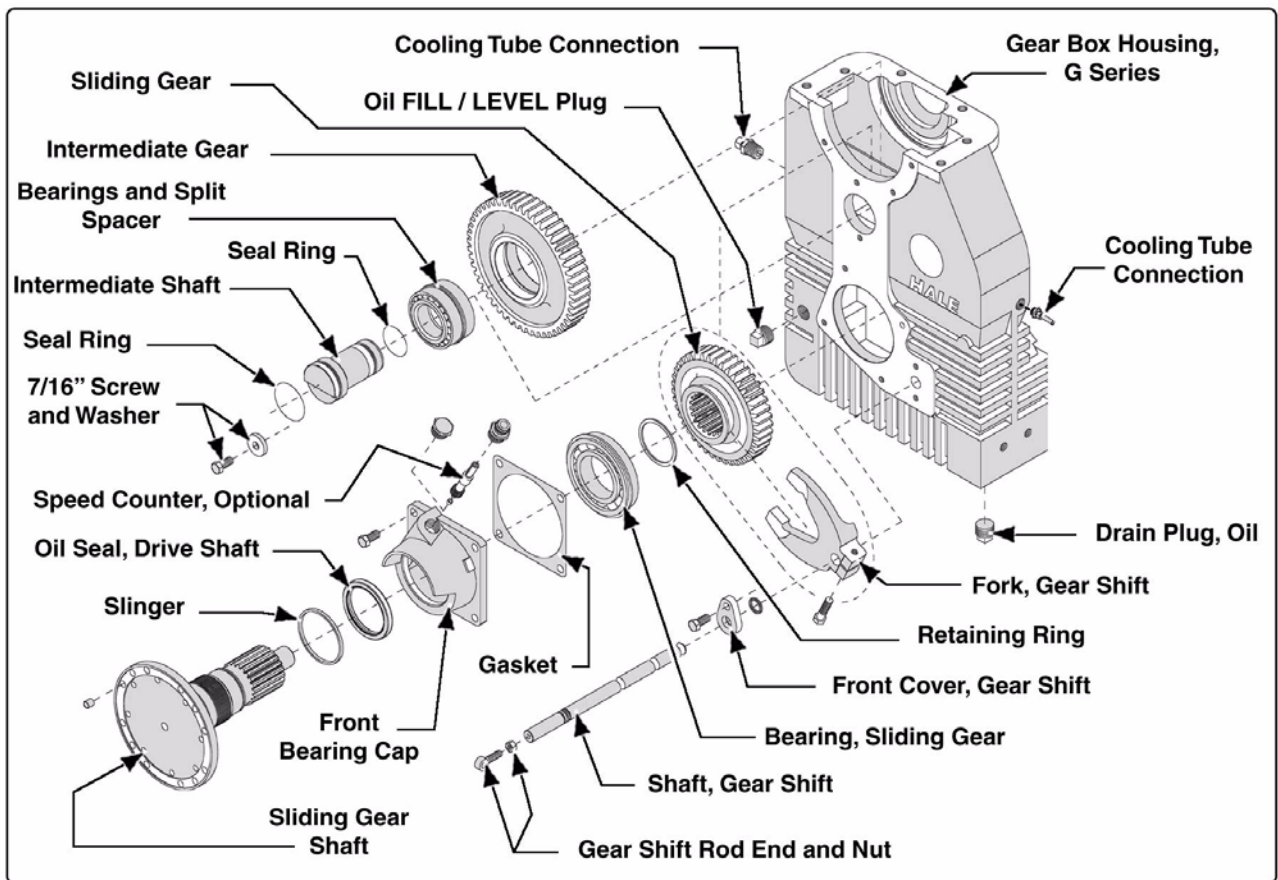
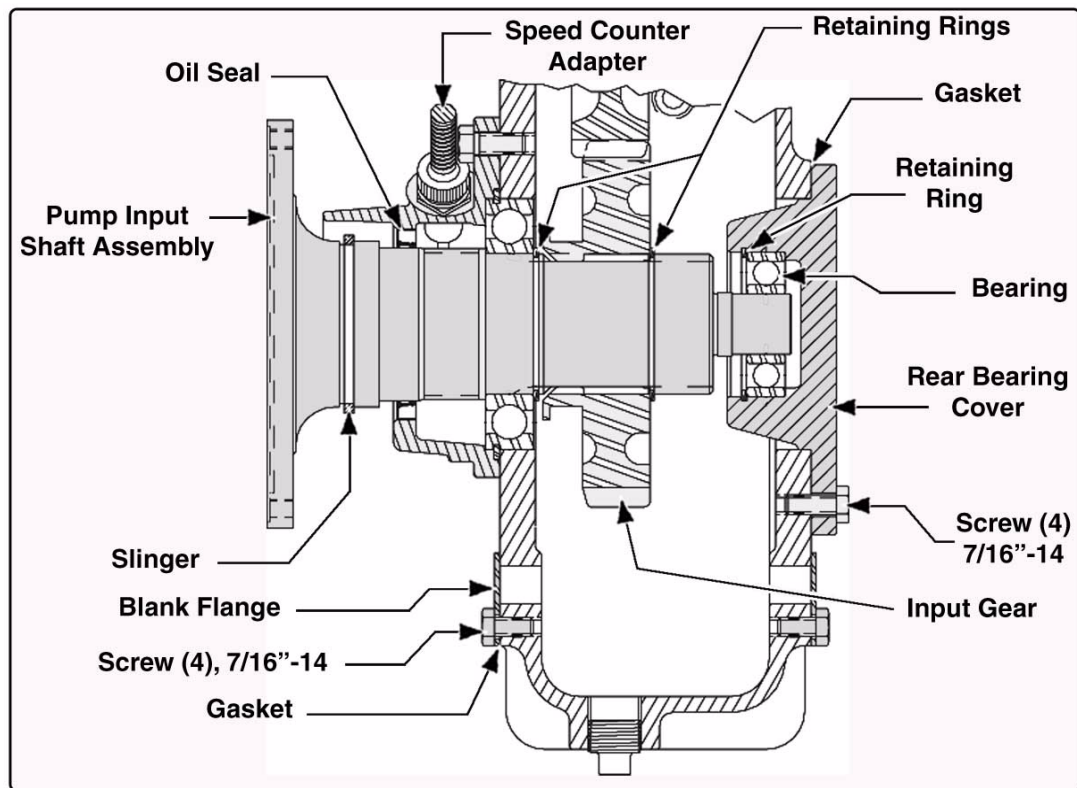

Figure 9-1: Intermediate Shaft and Sliding Gear, Typical G Series Gearbox
Figure 9-4: PTO Drive Option
Remove and disassemble the intermediate shaft assembly. (See Figure 9-1: “Intermediate Shaft and Sliding Gear, Typical G Series Gearbox.”)
2. Remove the 7/16"-14 UNC x 1" screw and washer holding the intermediate shaft in place. (See Figure 9-1: "Intermediate Shaft and Sliding Gear, Typical G Series Gearbox" on page 149.)
(See Figure 9-1: “Intermediate Shaft and Sliding Gear, Typical G Series Gearbox” on page 149.)
- Sliding gear bearing retaining ring - see Figure 9-1: “Intermediate Shaft and Sliding Gear, Typical G Series Gearbox” on page 149.
(See Figure 9-1: “Intermediate Shaft and Sliding Gear, Typical G Series Gearbox” on page 149.) Also see Figure 9-4: “PTO Drive Option” on page 154.
3. Place the sliding gear into the shift fork. Make sure the shift fork groove on the sliding gear is oriented towards the front of the gearbox. (See Figure 9-1: “Intermediate Shaft and Sliding Gear, Typical G Series Gearbox” on page 149.)
5. Using a brass drift or bearing installation tool, install the sliding gear bearing. (See Figure 9-1: “Intermediate Shaft and Sliding Gear, Typical G Series Gearbox” on page 149.)
(See Figure 9-4: "PTO Drive Option" on page 154.)